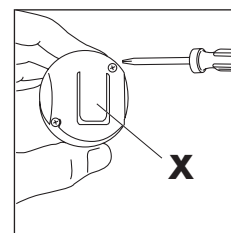

fig. 8
- Remove the screw from the back cover (fig. 8).